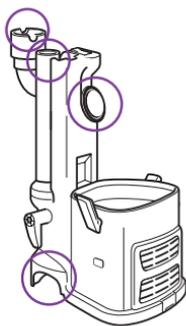

Fig. 26
- Remove the dust cup and extension wand and separate the portable *Lift-Away* canister from the motorised floor brush. Look in all 4 openings for any blockages. (Fig. 26)